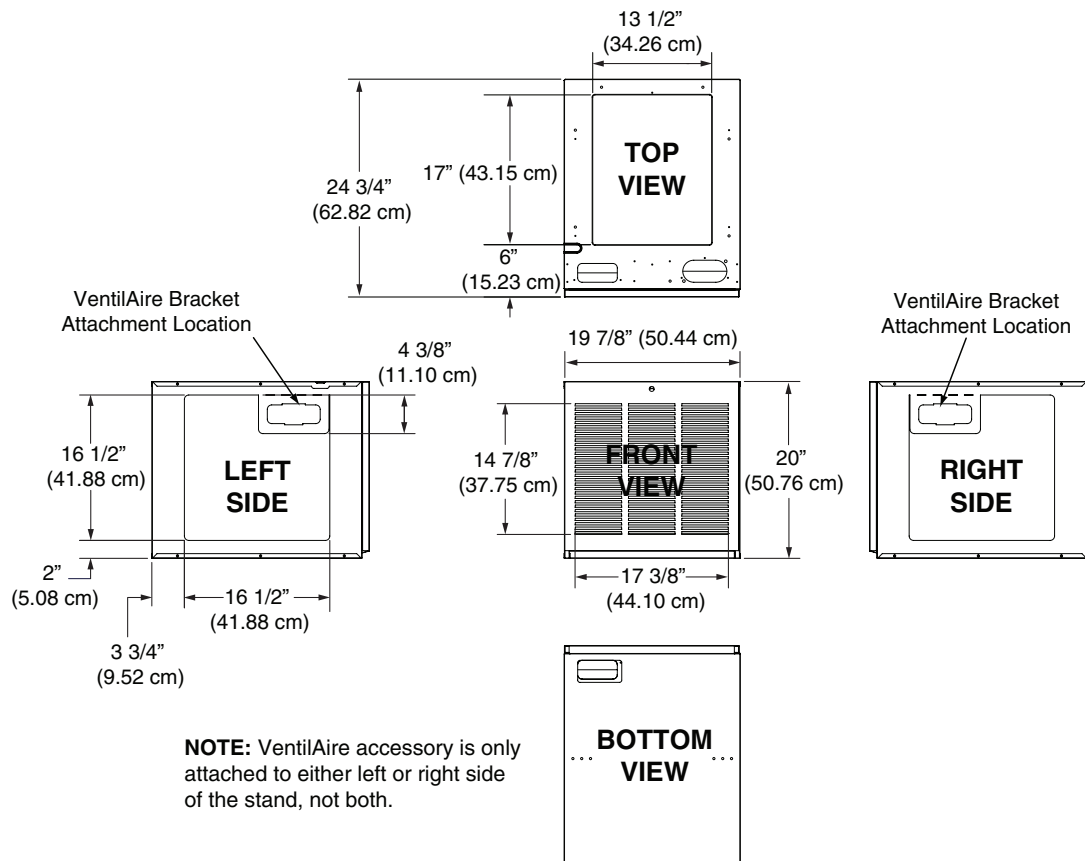

Figure 21. E7 Appliance Upflow Stand Dimensions
- The thermostat should be mounted about 5 feet (1.5 m) above the floor on an inside wall. DO NOT install the thermostat on an outside wall or any other location where its operation may be adversely affected by radiant heat from fireplaces, sunlight, or lighting fixtures, and convective heat from warm air registers or electrical appliances. Refer to the thermostat manufacturer's instruction sheet for detailed mounting information. See Figure 21 \(page 15\) for typical thermostat connections.
NOTE: Installation of at least a four-wire thermostat circuit is required. However best practice is to use five-wire for future addition of a heat/cool thermostat. Any unused thermostat leads must be properly capped. See Figure 21 \(page 15\) for various thermostat connections.